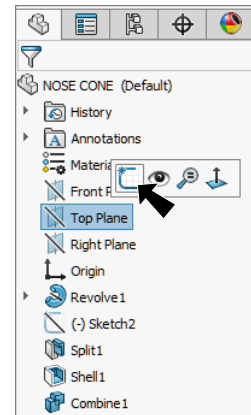

Fig. 19
Step 1. Click **Top Plane**  in the Feature Manager and click **Sketch**  on the content toolbar, **Fig. 19**.